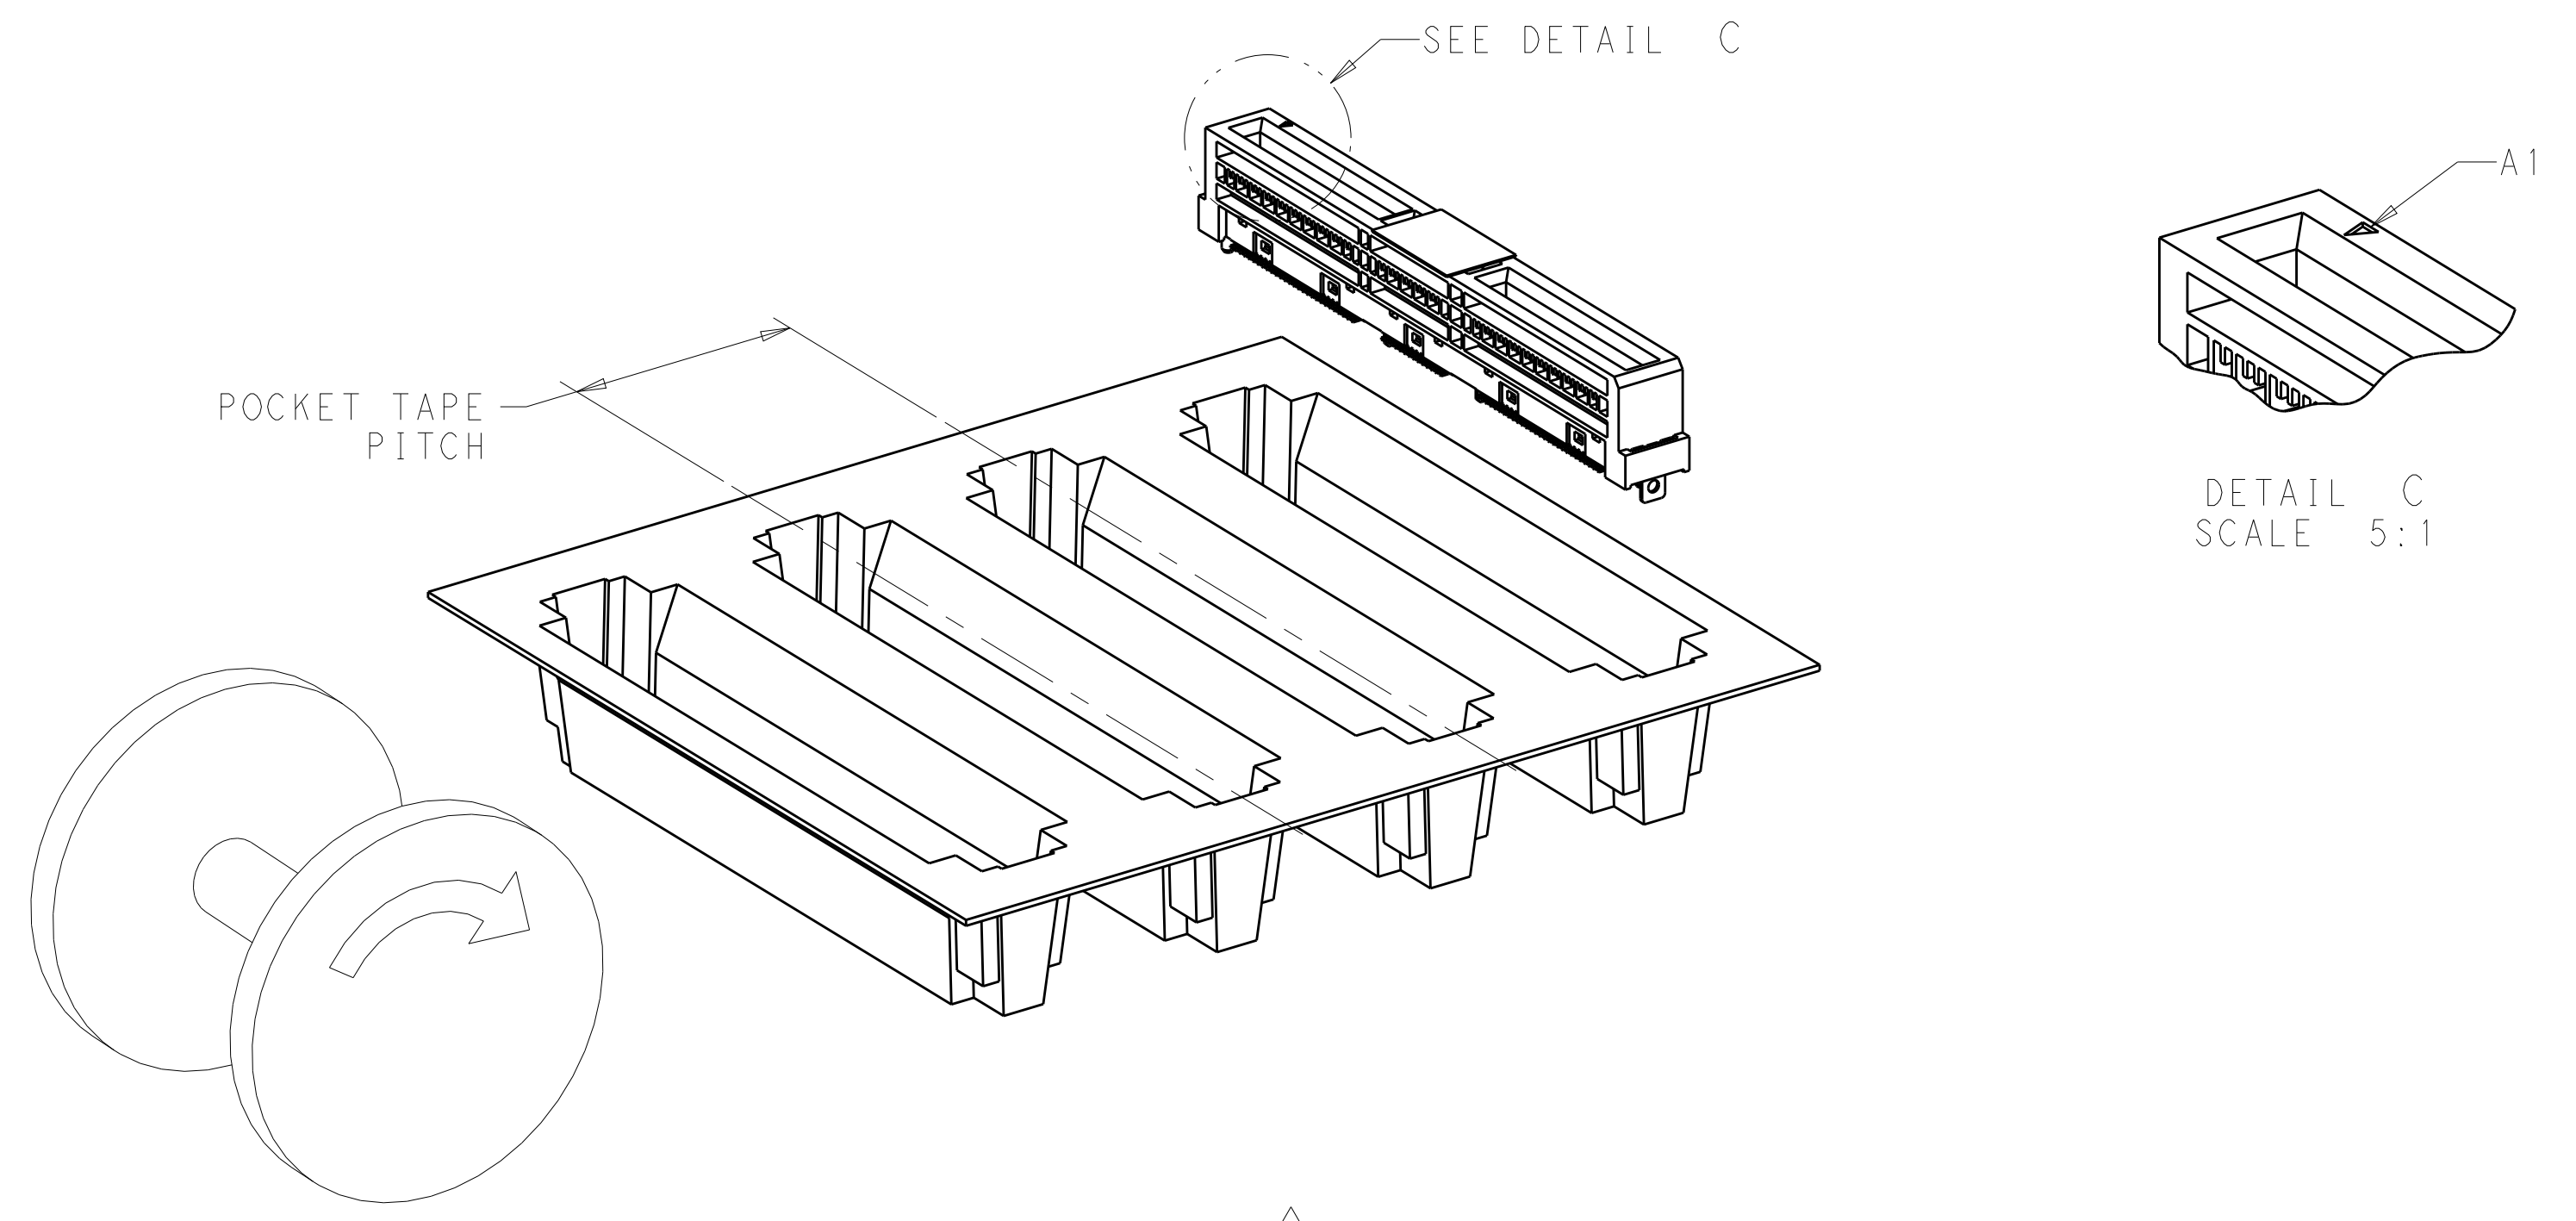

FIGURE 1 \triangle
8. TAPE AND REEL PACKAGED FOR PICK AND PLACE SMT PROCESSING, SEE FIGURE 1. POCKET TAPE WIDTH = 72.